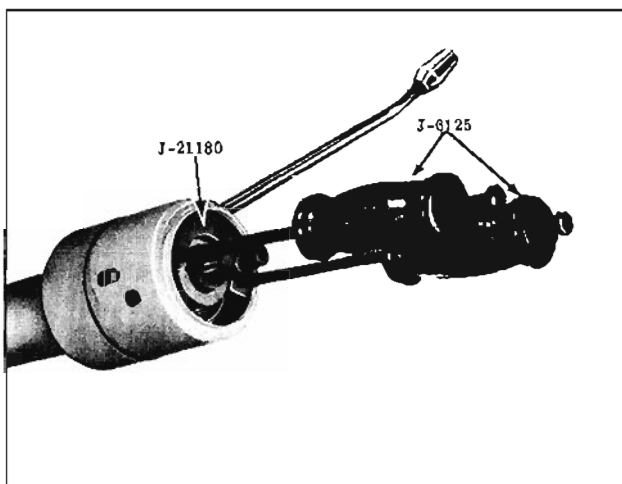

Fig. 8-93 Removing Turn Signal Cover
2. Remove the turn signal cover. (Fig. 8-93)